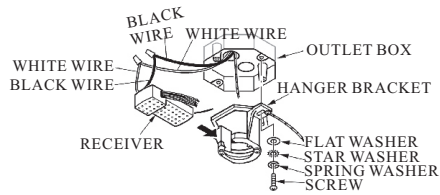

FIG. 9
1. Securely attach the hanger bracket to the outlet box by washers and screws supplied. Connect white wire from ceiling to white wire from receiver with wire nut. Connect black wire from ceiling to black wire from receiver with wire nut. (See fig.9)